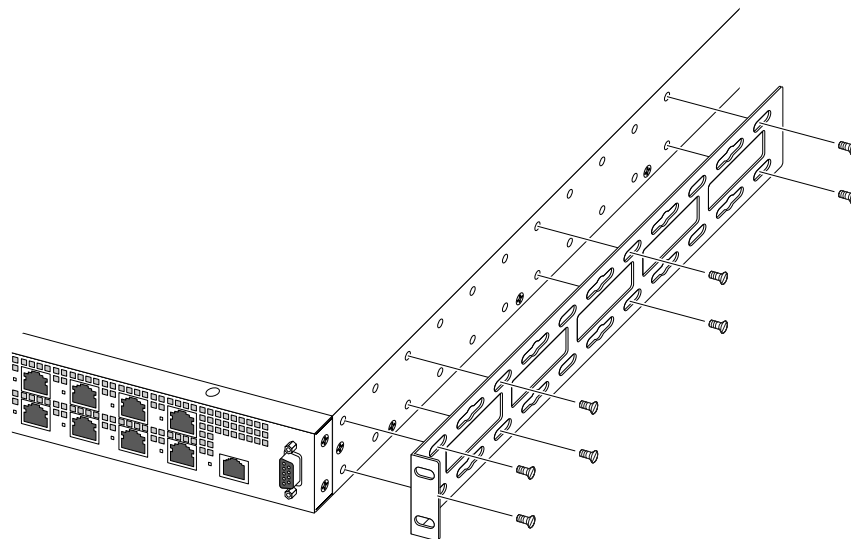

Figure 276: Attaching the Front Mounting Brackets—Cabinet Installation
- 4 At the front of the switch, attach a rack-mounting bracket to each side (see Figure 276: Attaching the Front Mounting Brackets—Cabinet Installation on page 303).